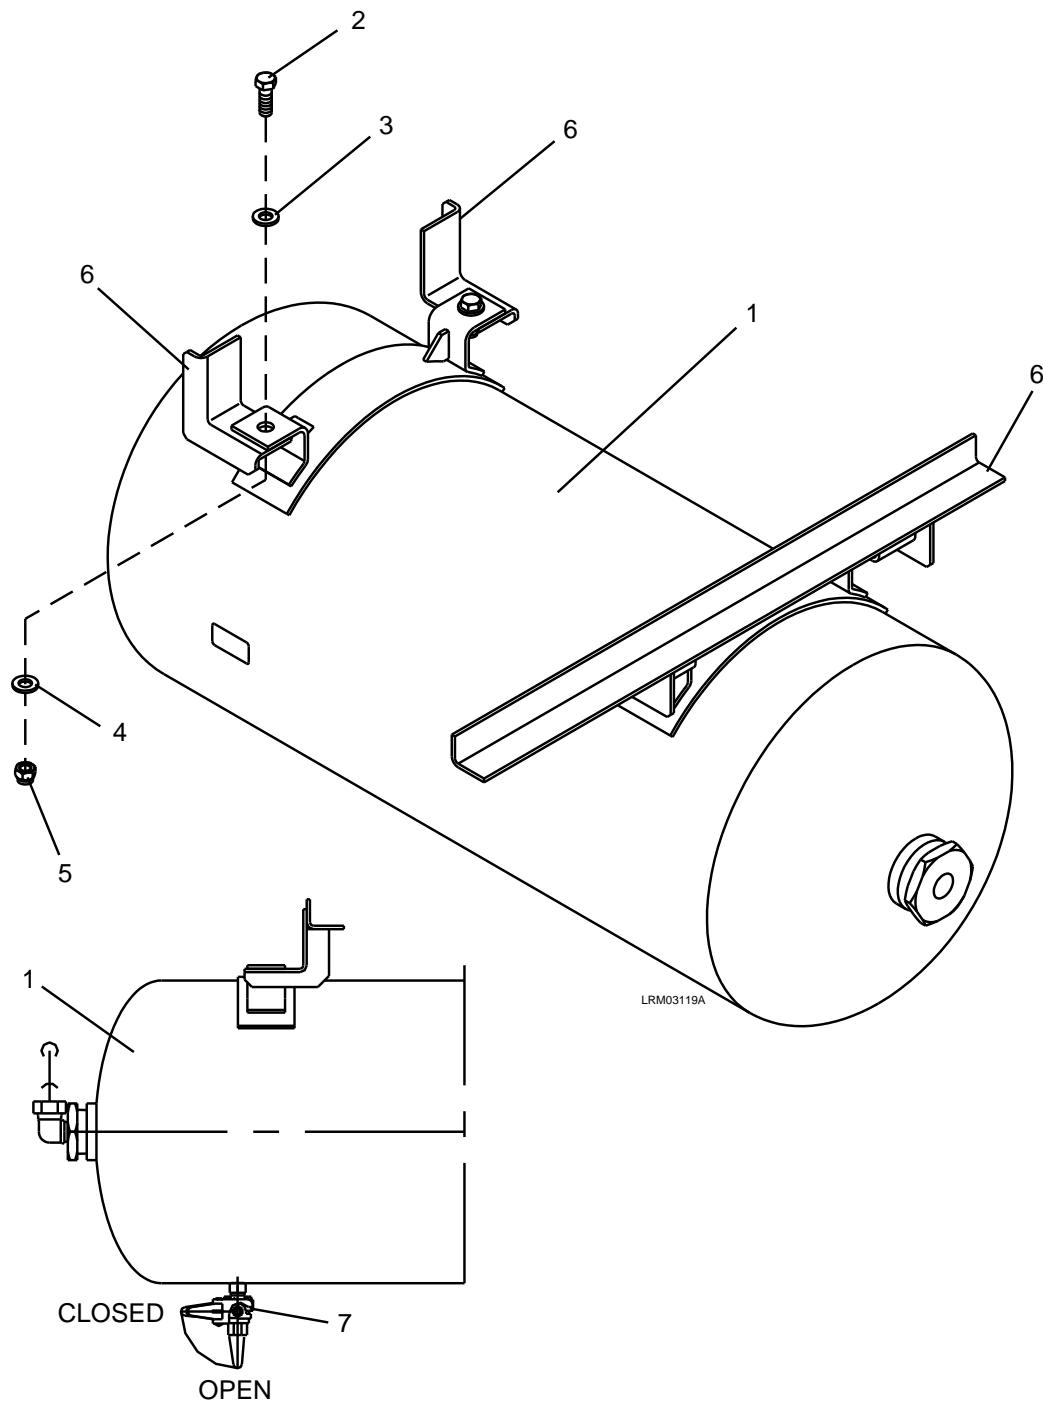

Figure 7-105: Main Reservoir
2. Open drain cock (7) and drain the air supply to the Main Reservoir (1). See Figure 7-105.
3. Disconnect the fittings from the Main Reservoir (1).
4. Remove the drain cock (7) from the Main Reservoir (1) by turning the drain cock counterclockwise.
5. Remove the four M12 ESNA nuts (5), M12 plain washers (4), M12 x 35 bolts (2) and M12 plain washers (3).
6. Carefully remove the Main Reservoir (1) from car body brackets (6).